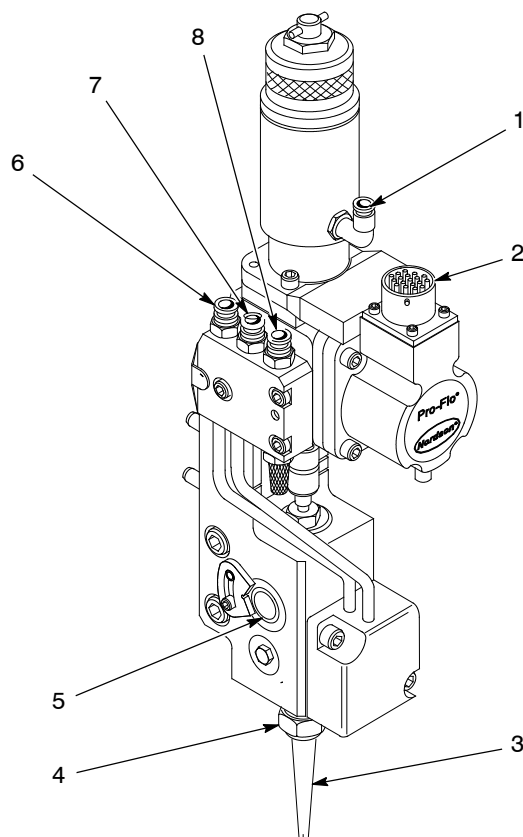

Figure 3 Connection Requirements
See Figure 3. Follow these procedures to make the necessary connections for the Pro-Flo III applicator.
See Figure 3. Contact a Nordson representative to select the correct nozzle (3) for your application. Place the nozzle nut (4) over the nozzle and tighten securely to the gun body.